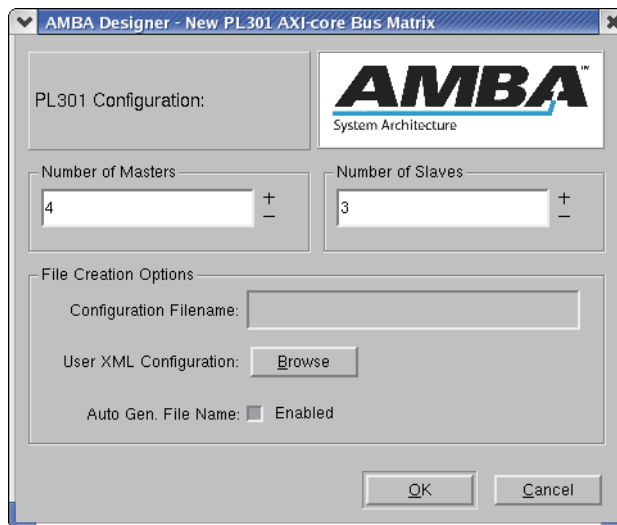

Figure 4-5 New PL301 AXI-core Bus Matrix dialog
- a. Enter 4 in the Number of Masters field, as Figure 4-5 shows.